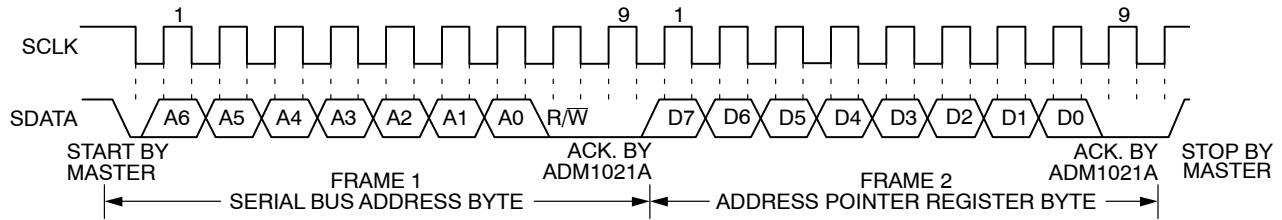
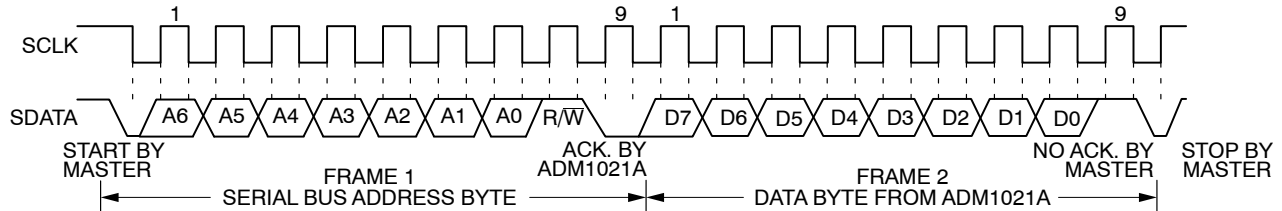

Figure 15. Writing to the Address Pointer Register Only
Figure 16. Reading Data from a Previously Selected Register
1. If the ADM1021A's address pointer register value is unknown or not the desired value, it is first necessary to set it to the correct value before data can be read from the desired data register. This is done by performing a write to the ADM1021A as before, but only the data byte containing the register read address is sent, because data is not to be written to the register. This is shown in Figure 15. A read operation is then performed consisting of the serial bus address,  $R/\bar{W}$  bit set to 1, followed by the data byte read from the data register. This is shown in Figure 16.
2. If the address pointer register is known to be already at the desired address, data can be read from the corresponding data register without first writing to the address pointer register, so Figure 15 can be omitted.